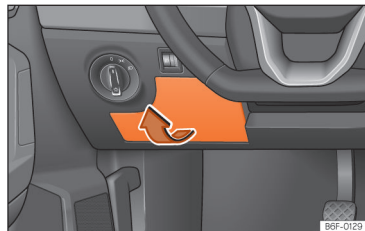

Fig. 48 On the driver's side dashboard: fuse box cover.
- Open: remove the fuse box cover in the direction indicated »» **Fig. 48**.